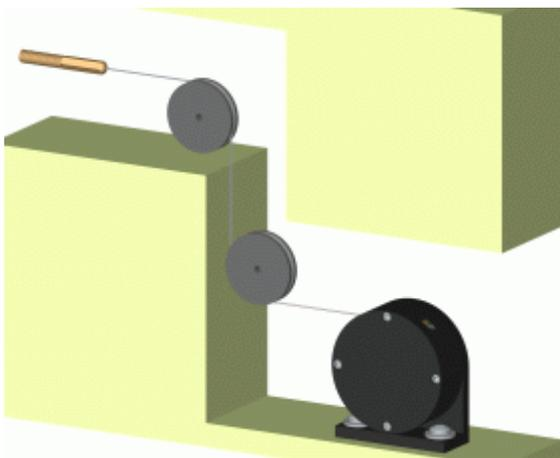

Figure 11 - Cable-actuated displacement sensor with pulley guides
*Cable-actuated* displacement sensors are hybrid devices that can incorporate potentiometric, inductive, synchro, or encoder technology. A significant portion of the sensor is a stainless steel cable that is lightweight, - small, affordable, and flexible. This sensor allows for the technology of choice as sensing mechanism and, hence, adopts the electrical output characteristics of that sensing technology. See Figures 11, 12, and 13.